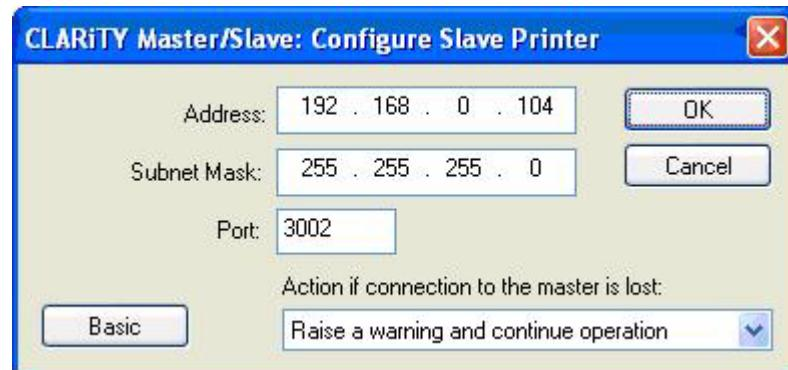

Figure 10-11: Advanced Configure Slave Printer Dialog Box
- 3 Click on the Advanced button, to change to advanced configuration. The advance configure slave printer dialog box appears (Figure 10-11).
The advance configure master printer dialog box appears (Figure 10-11).